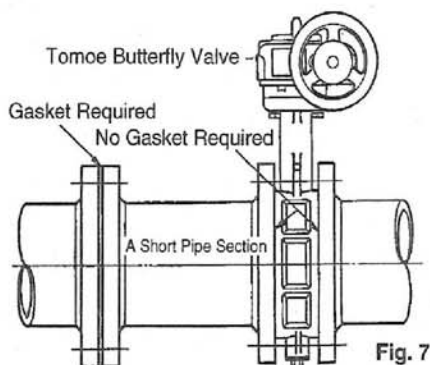

Fig. 7
- 7 Where as a gasket may be required between an ordinary pipe-to-pipe joint, (Fig.7), a Tomoe valve requires no gasket between the valve and piping flange. A soft gasket such as rubber will cause the valve to malfunction.